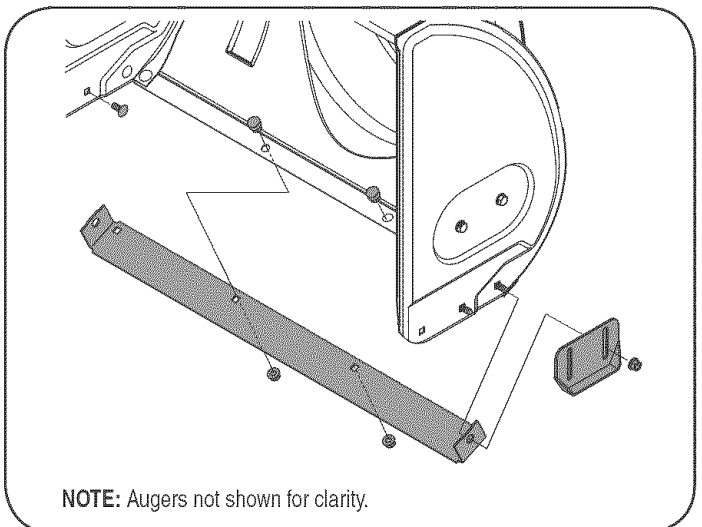

Figure 5
2. Reassemble new skid shoes with the four carriage bolts (two on each side) and hex flange nuts. Refer to Figure 5.